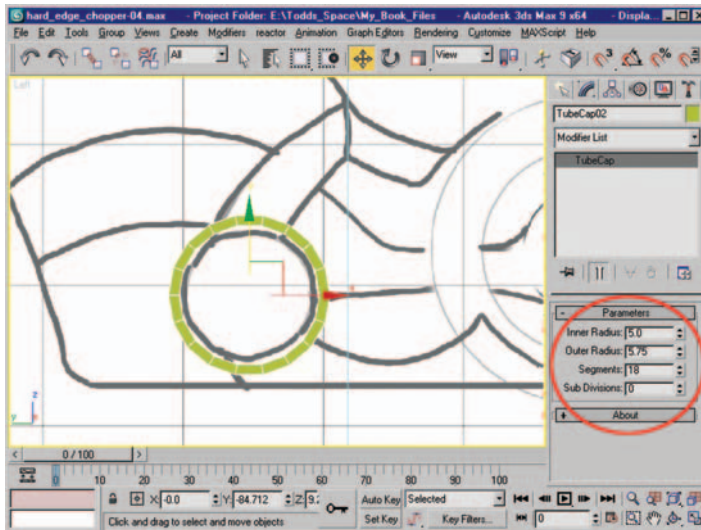

Figure 8.1 Tube with 18 segments placed in front of the side blueprint.
2. In the left viewport, create a TubeCap (scripted primitive mentioned in Chapter 5) with 18 segments, an inner radius of 5.00, and an outer radius of 5.75. This will be used to create the body panels of the bike model. Convert the tube to an Editable Poly object. Figure 8.1 shows the tube with its parameters highlighted.